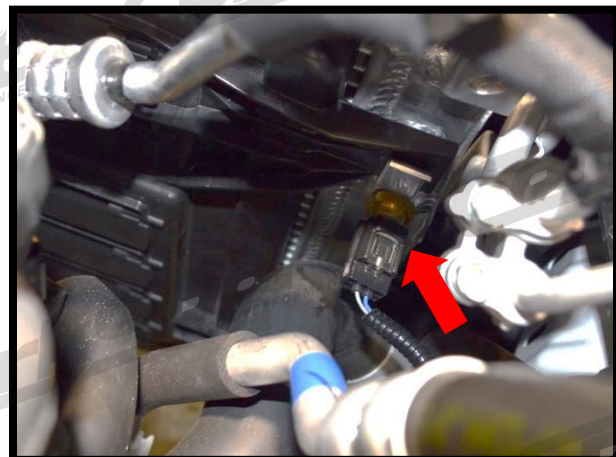

Figure 2g
- h) **Connect the harness plug to the temperature sensor** on the passenger side of the radiator (**Figure 2g**).
h) Connect the harness plug to the temperature sensor on the passenger side of the radiator (red arrow in Figure 2g).